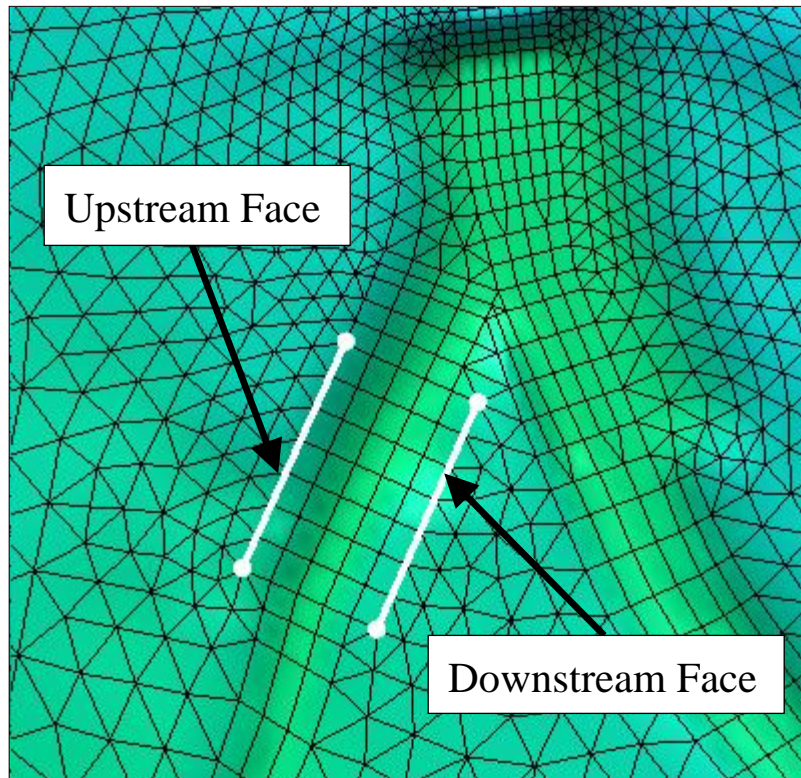

Figure 3 Weir structure arc locations
8. Use the **Create Feature Arc**  tool to create two arcs, one on the upstream face and one on the downstream face. The created arcs should look similar to Figure 3.